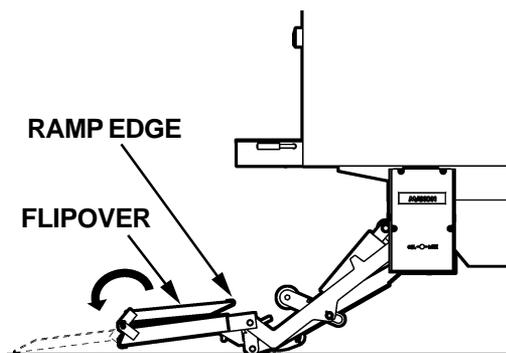

FIG. 4
3. Standing to the side of the Platform (**FIG. 4**), unfold Flipover by the Ramp Edge as shown in **FIG. 4**.